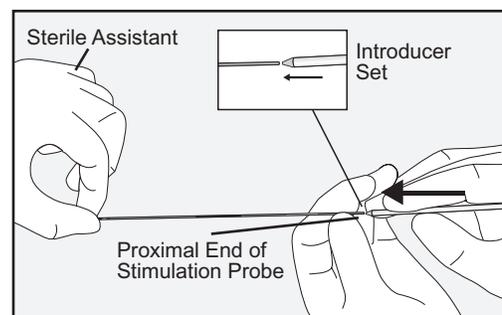

Figure 17: Slide Introducer Set Over Stimulation Probe
13. Slide the pointed tip of the Introducer Set dilator over the proximal end of the Stimulation Probe (see Figure 17).